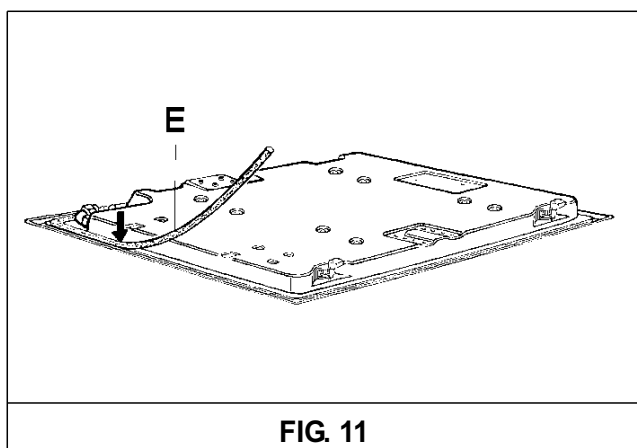

FIG. 11
- Overturn the cooktop and correctly position seal "E" (fig. 11 under the edge of the cooktop itself, so that the outer side of the seal perfectly matches the outer perimetral edge of the cooktop. The ends of the strips must fit together without overlapping.